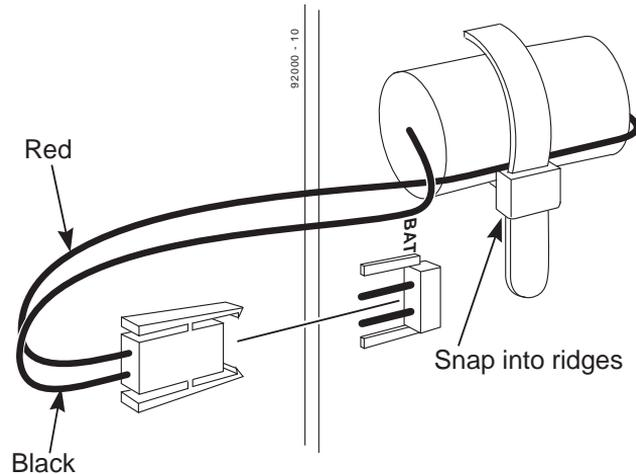

Figure 2-3 CPRU BATTERY INSTALLATION
CPRU Installation (Figures 2-3 through 2-6)
2. Connect the battery to the BAT connector with **the red wire up** (Figure 2-3).